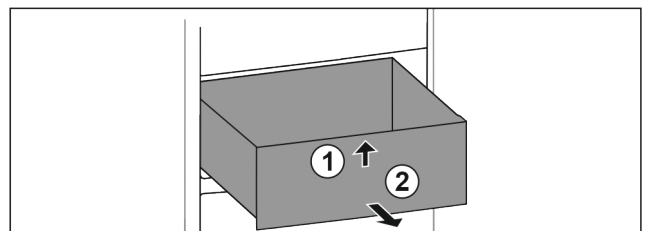

Fig. 133
- ▶ Lift up drawer at the front. Fig. 133 (1)
- ▶ Remove drawer to the front. Fig. 133 (2)